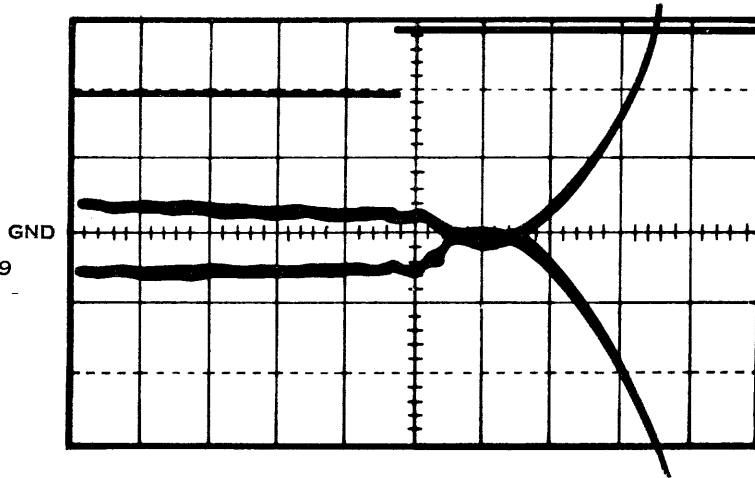

Figure 3-21. Two Track Seek Within Tolerance
22. Verify the adjustments again by changing memory location 8016 and 8026 to 0000 and 0002 and again for cylinders 400_{10} (190_{16}) and 402_{10} (192_{16}). Again it may be necessary to adjust R74 to bring both locations into adjustment. Refer to figure 3-21.